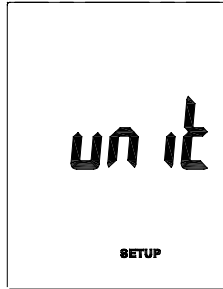

Fig. 1
1. While the meter is in **Setup** mode, press **▲/Unit** or **Unit/▼** button to scroll to the **duct dimension units** setup option (Fig. 1).